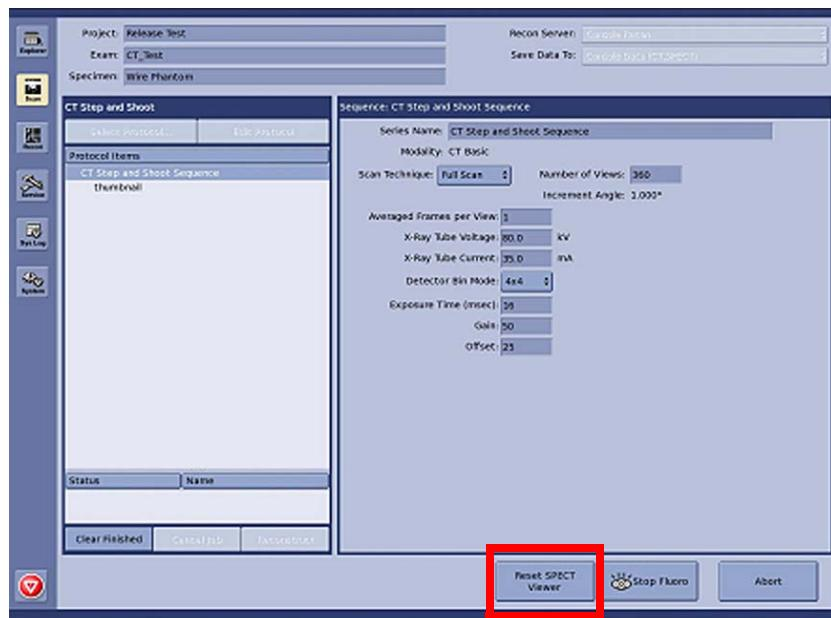

Figure 4-19
3. Select Reset SPECT Viewer (Figure 4-19).